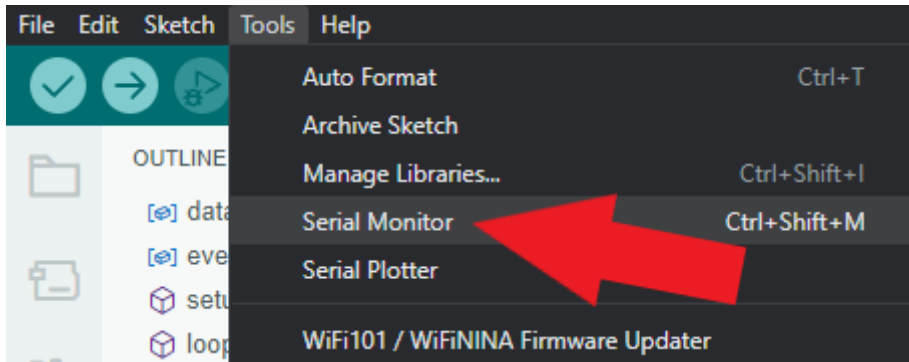

Figure 10: Open Serial Monitor.
7. Next, select Tools > Serial Monitor (See Figure 10).